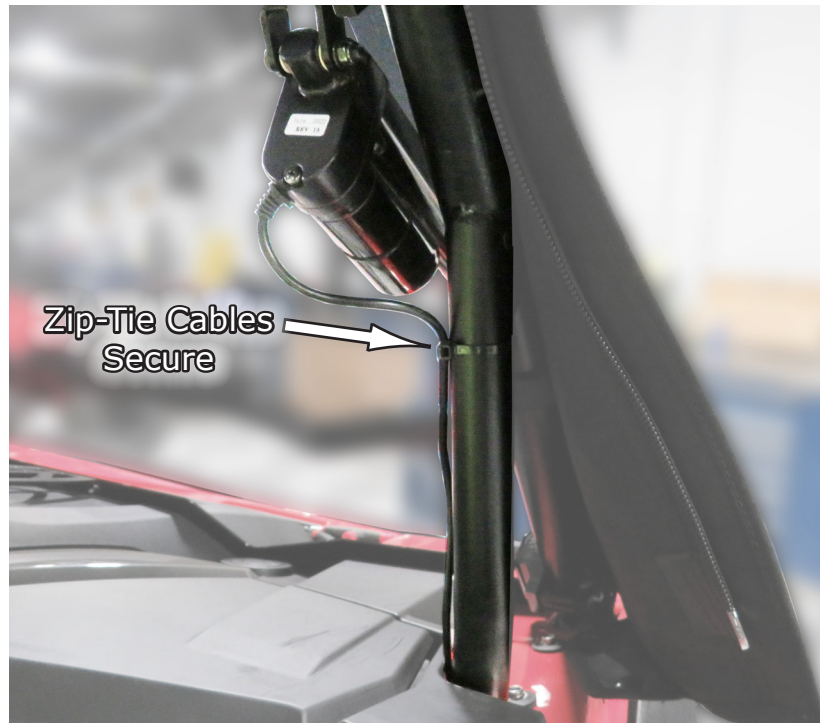

Fig.25
25. Now Zip-Tie the Actuator cables out of the way neatly and check all other cables and wires to make sure they are out of harms way and secure. See Fig.25.